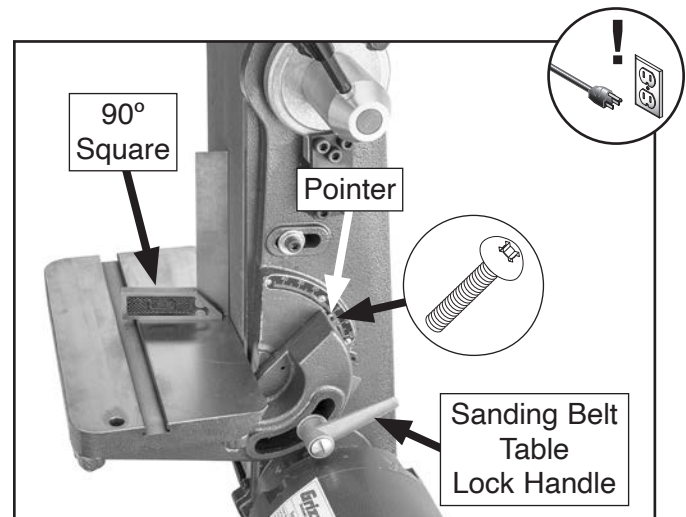

Figure 49. Squaring table to sanding belt.
2. Place 90° square on sanding belt table, loosen sanding belt table lock handle, and adjust table until it is square to sanding belt (see **Figure 49**).
3. Loosen pointer screw (see **Figure 49**), adjust pointer to point to 0° when table is square to belt, then tighten screw to secure.